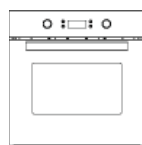

figure 5
4. Assemble baking rack and other accessories inside cavity, then the assembly is finished as figure 5.